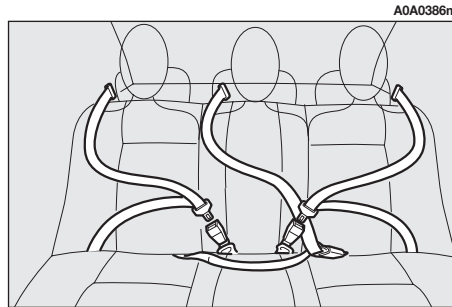

fig. 36
The rear seat is fitted with inertial seat belts with three anchor points with reel for the side seats and for the centre seat (fig. 36).
*To offer the highest level of protection, the rear seat belts should be fastened as shown in fig. 36.*